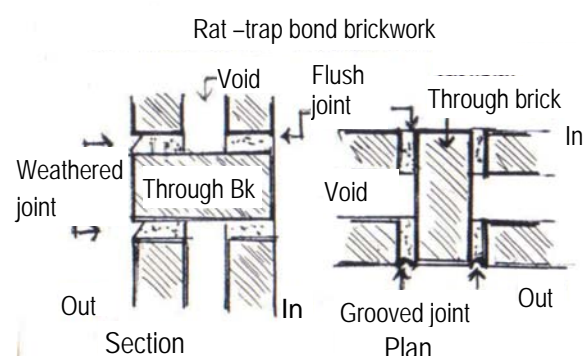

Fig 21 - **Mortar joints at external walls**
- Used a **weathered** pointing on all **horizontal joints** between brick layers on **external walls** that are not to be plastered (See fig. 21)
- Used grooved pointing on all vertical joints between bricks on external **walls** that are not to be plastered (See fig.21)
- Used **flush joints** – **vertically and horizontally** between bricks on walls that are to be painted and in internal side of external walls (See fig. 21)